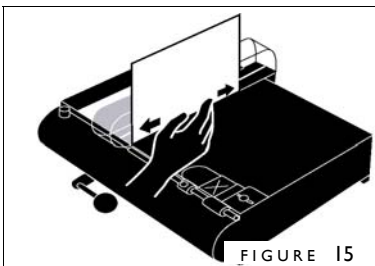

FIGURE 15
3. Fold your cover up to the left so it rests against the side of the Die Holder (figure 15). Run your finger back and forth at the bottom at the spine area of the cover so it makes a sharp fold at the bottom.